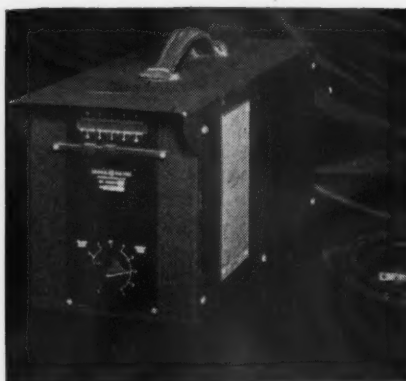

FIG. 6. Single-element magnetic-oscilloscope used for accurate measurement of peak currents of short duration.
**5. Single-element Magnetic Oscilloscope.** This instrument (Fig. 6) is ideal for reading accurately peak values of current even if only of half-cycle duration. It is also the best instrument for determining the balance, or magnitude of unbalance of a.c. transient currents.
resistor. Fig. 6 shows the discharge current versus time for a condenser shorted by a resistor.